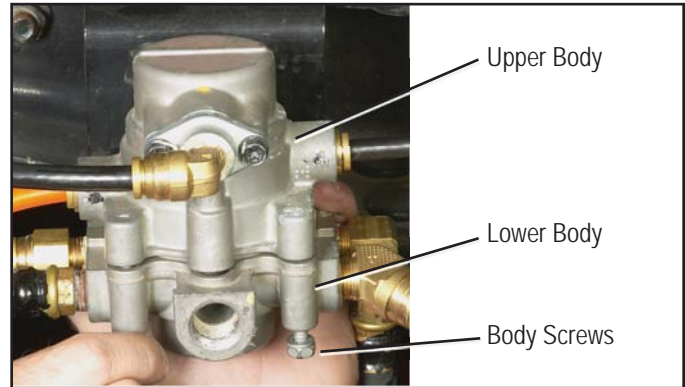

Figure 11 - SECURING THE UPPER & LOWER BODY
2. As shown in Figure 11, align the valve lower body with the upper body. Push the body halves together. Insert two of the four screws (finger tight) into the lower body mounting holes closest to the supply port first. This will help with alignment. One extra screw is included in this kit in the event one is lost during installation.